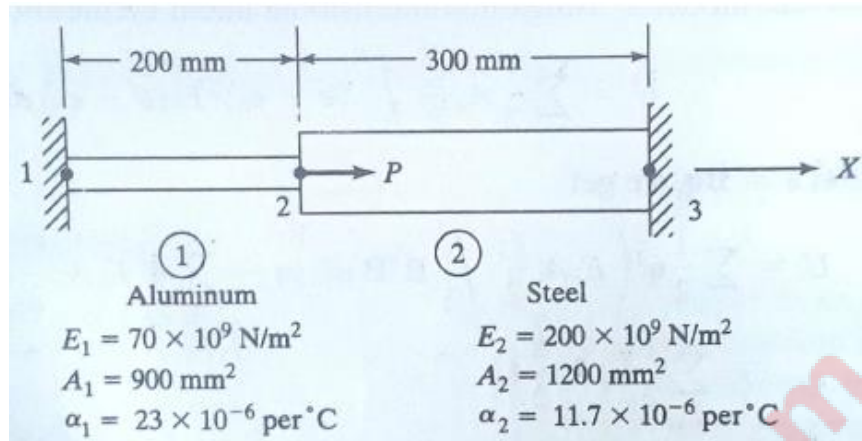

Figure 3
- Q.3 (a) An axial load  $P = 300 \times 10^3$  is applied at  $20^\circ\text{C}$  to the rod as shown in Figure 3. The temperature is then raised to  $60^\circ\text{C}$ . Determine global stiffness matrix, global load vector, nodal displacements and element stresses. 07